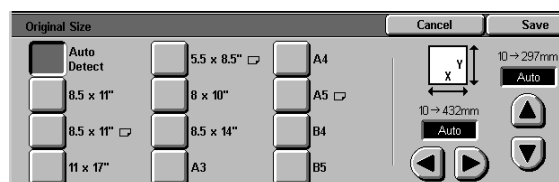

Figure 12: Original Size screen
- 7 Touch the Added Features tab and touch the Original Size icon to display the Original Size screen, Figure 12.